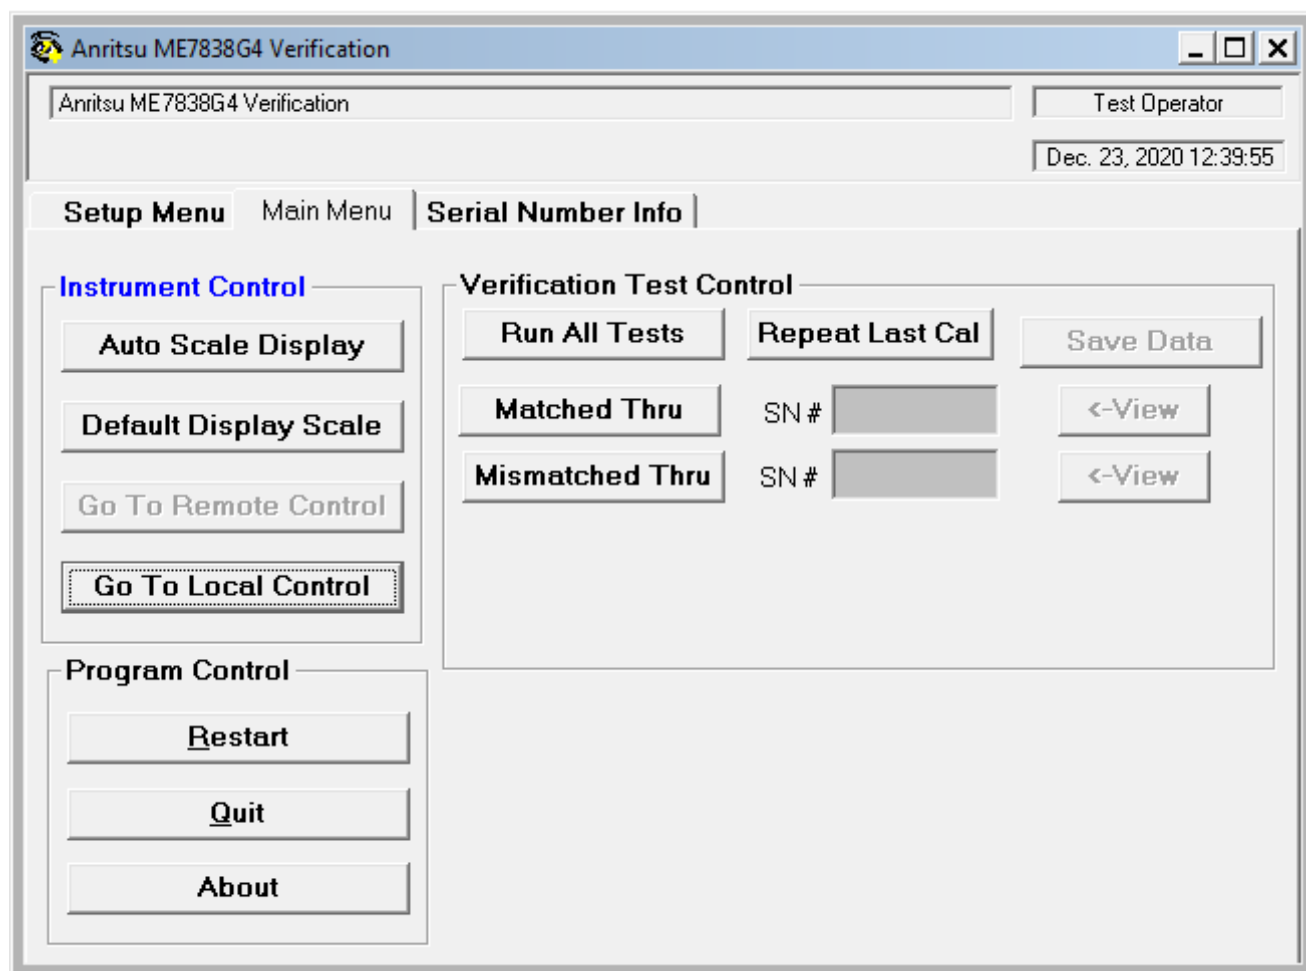

Figure 5-42. ME7838G4 Application Interface – Main Menu Tab
- The Main Menu tab display is described in Section 5-9, “Application Interface – Main Menu Tab” on page 5-28 and is shown in Figure 5-42.
This command button runs both the Matched Thru and Mismatched Thru tests. Program execution starts with Section 5-11 “Matched Thru Tests – Port 1/Port 2” on page 5-33 and then continues with Section 5-12 “Mismatched Thru Tests – Port 1/Port 2” on page 5-36. When both tests are completed, program execution returns to the Main Menu tab shown in Figure 5-42 on page 5-28.
This command button re-calibrates the VNA according to the CURRENT calibration. This provides a way to recalibrate the VNA without having to reset the program parameters in case the original calibration was flawed for some reason. When the calibration sequence is complete, program execution continues to the Main Menu tab shown in Figure 5-42 on page 5-28.
This command button only runs the Mismatched Thru tests. If selected, program execution continues in Section 5-12 “Mismatched Thru Tests – Port 1/Port 2” on page 5-36. When the tests are completed, the program returns to the Main Menu tab shown in Figure 5-42 on page 5-28.
9. If only the Matched Thru button was selected, the program returns to the “Application Interface – Main Menu Tab” on page 5-28. The dialog box is shown in Figure 5-42, “ME7838G4 Application Interface – Main Menu Tab” on page 5-28.